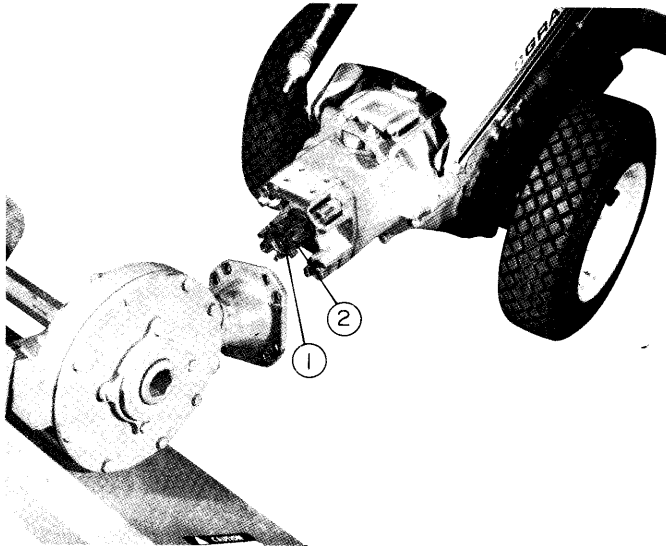

Fig. 4
1. Slide the attachment dog onto the splined PTO shaft of the tractor. See fig. 4.
1. Remove the four attachment bolts securing the rotary cultivator to the attachment adapter of the tractor and remove the rotary cultivator. See fig. 4.